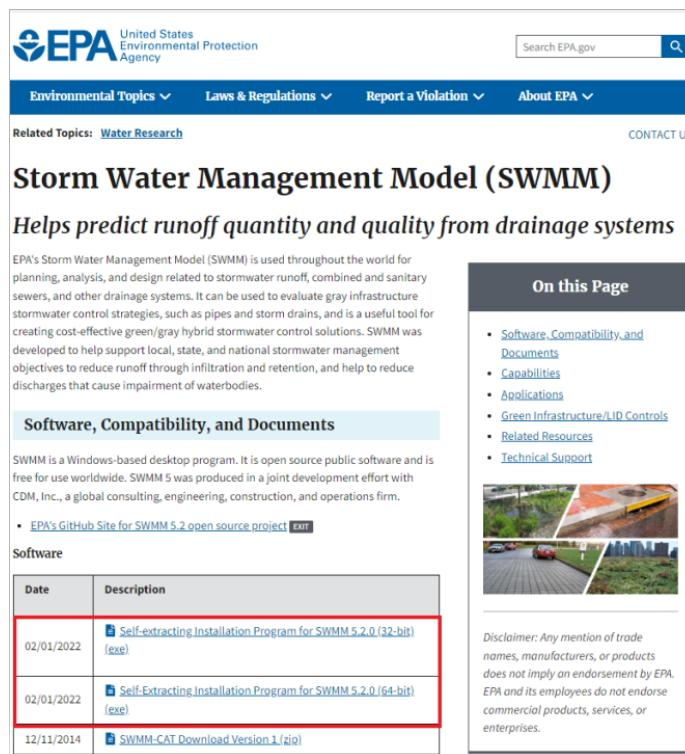

Figure 1-2. SWMM downloading homepage
- *Step 2:* Download the latest SWMM installation package from the webpage depending on the user's operation system (32-bit or 64-bit). The latest SWMM version when writing this tutorial is 5.2.0 (Figure 1-2).